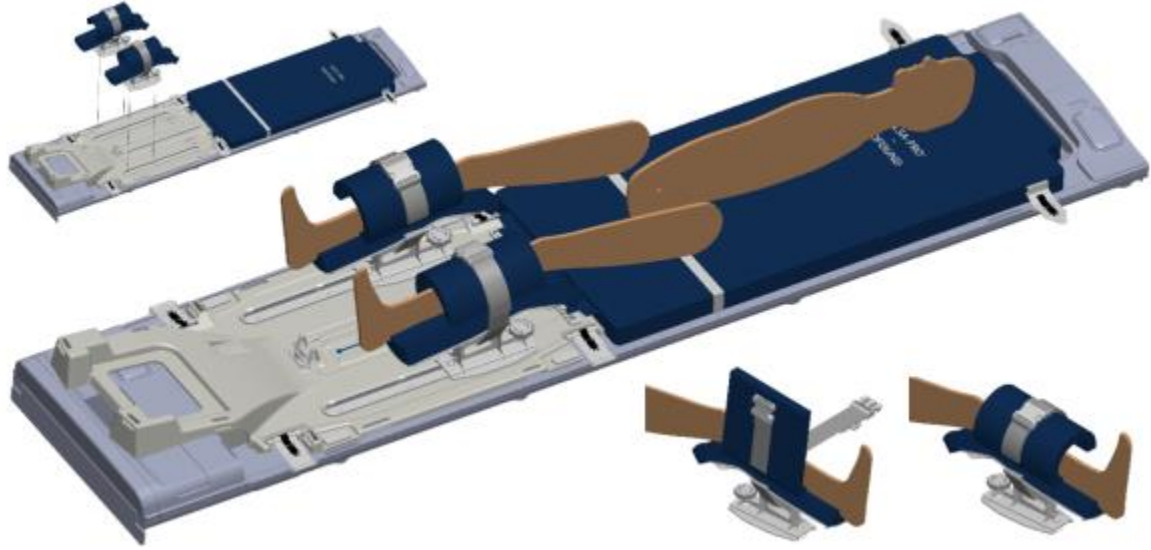

Figure 19: Initial patient positioning and attachment of leg supports
4. Have an assistant lift the patient's legs one at a time while you set up the leg supports (*Figure 19*):